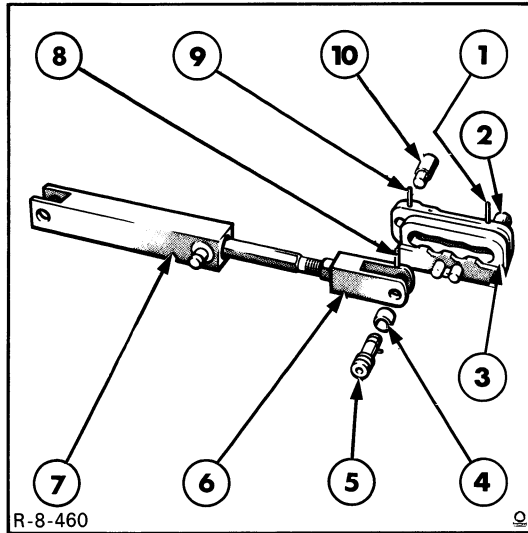

Figure 9
6. Check the pin and roller, pivot pin, roller, clevis pin and control guide for wear, Figure 9. If the parts are worn, drive out the roll pins to separate the assembly.